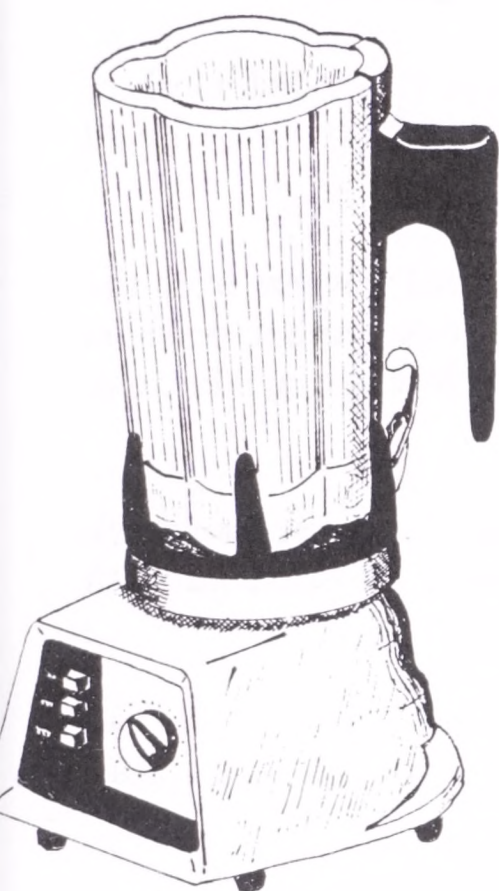

FIG. 4
5. To check for a leak in the type blender that employs a one-piece jar as shown in *Figure 4*, remove the blade assembly.